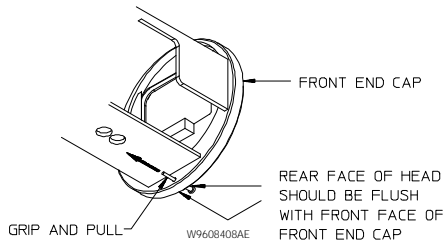

Figure 24: Installing the Pull Seal
4. Grip the pull seal's "long end" from the back of the front endcap. Steadily pull the "long end" until the head of the pull seal is flat against the front of the endcap. See **Figure 24**.